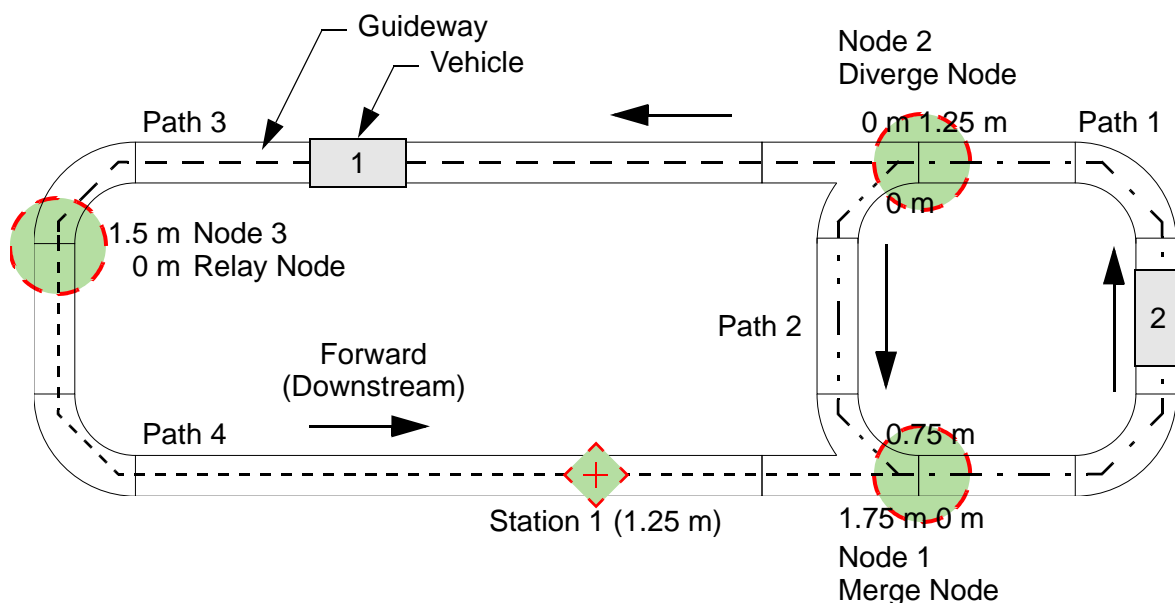

Figure 2-2: Transport System for Motion Examples
- A. For vehicle 1 in Figure 2-2 to reach the beginning of path 3 it moves from path 3 to path 4, from path 4 to path 1, then from path 1 to path 3. Vehicle 2 must move out of the way for vehicle 1 to complete its motion.
- B. For vehicle 1 in Figure 2-2 to reach the beginning of path 2 it moves from path 3 to path 4, from path 4 to path 1, then from path 1 to path 2. Vehicle 2 must move out of the way for vehicle 1 to complete its motion.
- A. For vehicle 1 in Figure 2-2 to reach the beginning of path 3 it moves directly to that position.
- B. For vehicle 1 in Figure 2-2 to reach the beginning of path 2 it moves from path 3 to path 1, from path 1 to path 2, then to the beginning of path 2. Vehicle 2 must move out of the way for vehicle 1 to complete its motion.
- A. For vehicle 1 in Figure 2-2 to reach the beginning of path 3 it moves backwards directly to that position.
- B. For vehicle 1 in Figure 2-2 to reach the beginning of path 2 it moves forward from path 3 to path 4, from path 4 to path 1, then from path 1 to path 2. Vehicle 2 must move out of the way for vehicle 1 to complete its motion. Once the vehicle starts moving in a specific direction, it does not change direction.
To create a platoon, move the following vehicle into position behind the lead vehicle using a Move Vehicle To Position command. The following example (see Figure 2-2 for the system layout) shows the following vehicle being positioned. The command is accepted, and the command is completed once the vehicle stops moving.